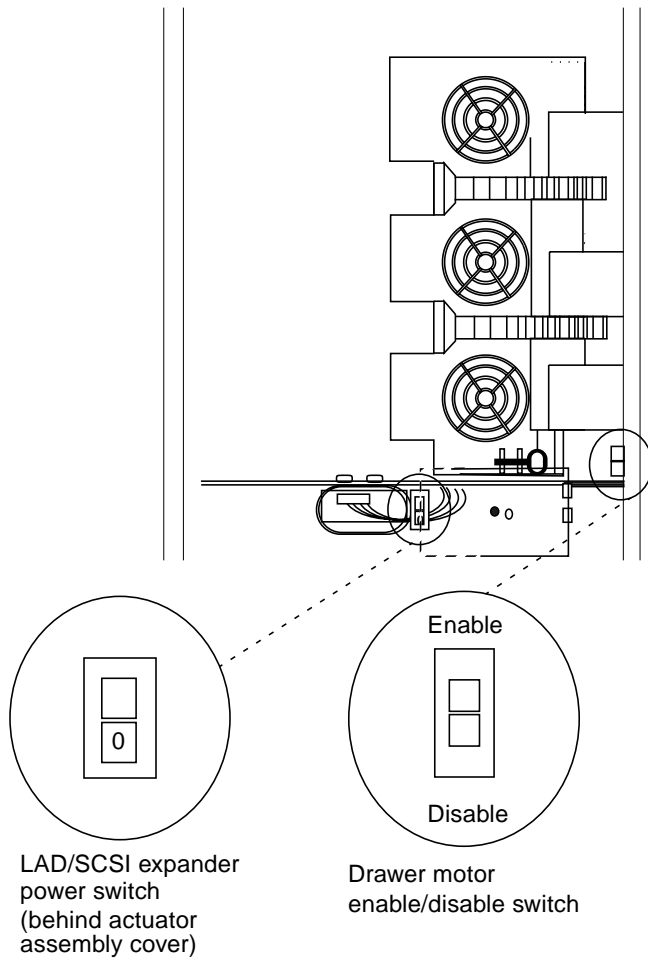

FIGURE 5-5 LAD/SCSI Expander Power Switch Location
1. Power on the LAD/SCSI Expander power supply. Verify that the power switch LED is on. See FIGURE 5-5 for switch location at the rear of the cabinet.